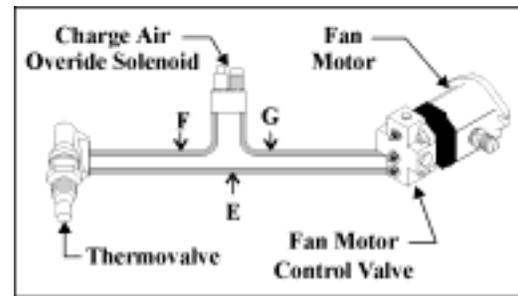

Figure 1.2—Pilot Operated Circuit
The charge air override solenoid consists of two (2) parts. The two parts are integrated into one valve body. These two parts are the charge air override solenoid (see **Figure 1.2—Pilot-Operated Circuit**) and the relief valve.